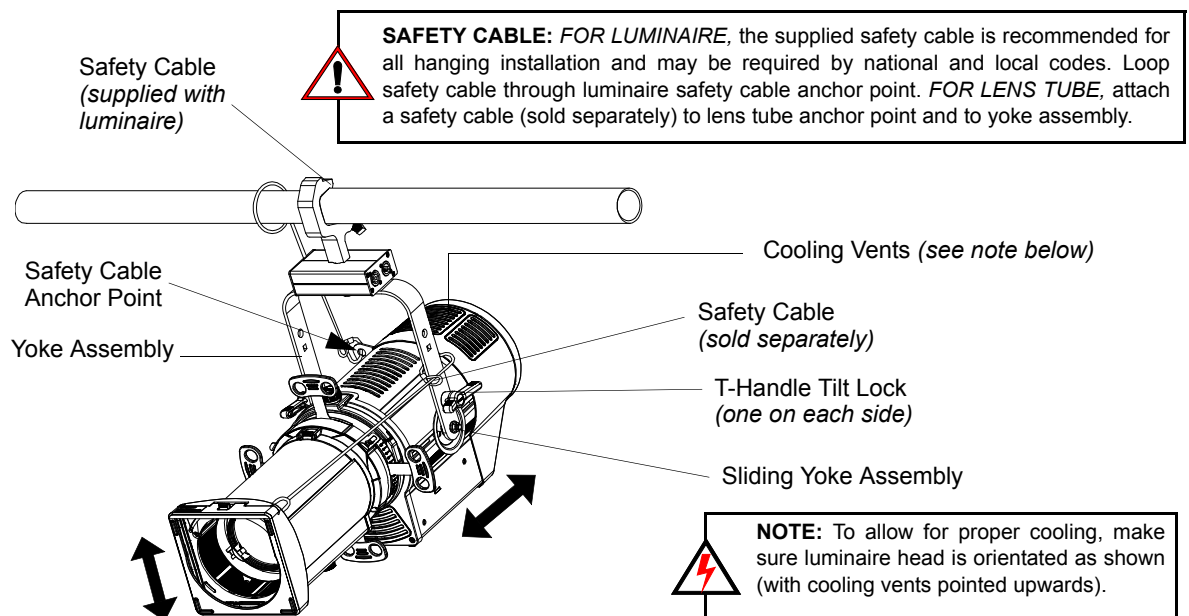

Figure 4: Luminaire Tilt Adjustment
The supplied safety cable **MUST** always be used when rigging luminaires on bars, truss, etc. (as shown in **Figure 4**). *FOR LUMINAIRE*, the supplied safety cable is recommended for all hanging installation and may be required by national and local codes. Loop safety cable through luminaire yoke assembly as shown and attach to structure. *FOR LENS TUBE*, attach a safety cable (sold separately) to lens tube anchor point and to yoke assembly. You should always consult and follow all local and national codes and regulations for mounting and installation of luminaire.
WARNING! If your luminaire is equipped with the eyelet as indicated in **Figure 4**, **DO NOT attach safety cable to this eyelet on luminaire body**. This eyelet feature was included for another purpose other than the safety cable and will be removed from future production models.
PLPROFILE4 MKII LED Luminaires offer variable tilt settings. The unit can be set at a specific angle (in relation to its mounting position) or at an angle between 0 to 90 degrees. When the yoke is in the position shown in **Figure 4**, you have full range access to shutters the gate etc. If you flip the yoke over some access is reduced but the over all volume the luminaire takes up is reduced. This is particularly useful in tightly hung lighting positions or in theatres with low grids.
- Step 2. Loosen, but do not remove, T-Handle Tilt Locks at base of yoke assembly as shown in **Figure 4**.